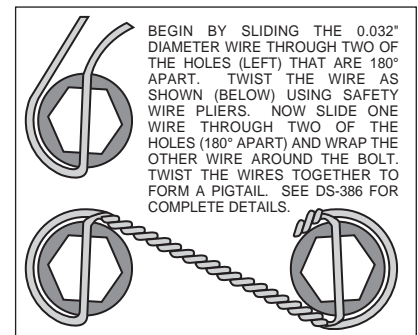

Figure 4. Safety Wire Diagram
- Bolt the hat (1) to the rotor (2) using washers (3) and bolts (4). Torque bolts (4) to 180 in-lb. Safety wire bolts (4) using standard 0.032 inch diameter stainless steel safety wire as shown in Figure 4. Please refer to Wilwood's data sheet DS-386 (available at www.wilwood.com/Pdf/DataSheets/ds386.pdf) for complete safety wire installation instructions.